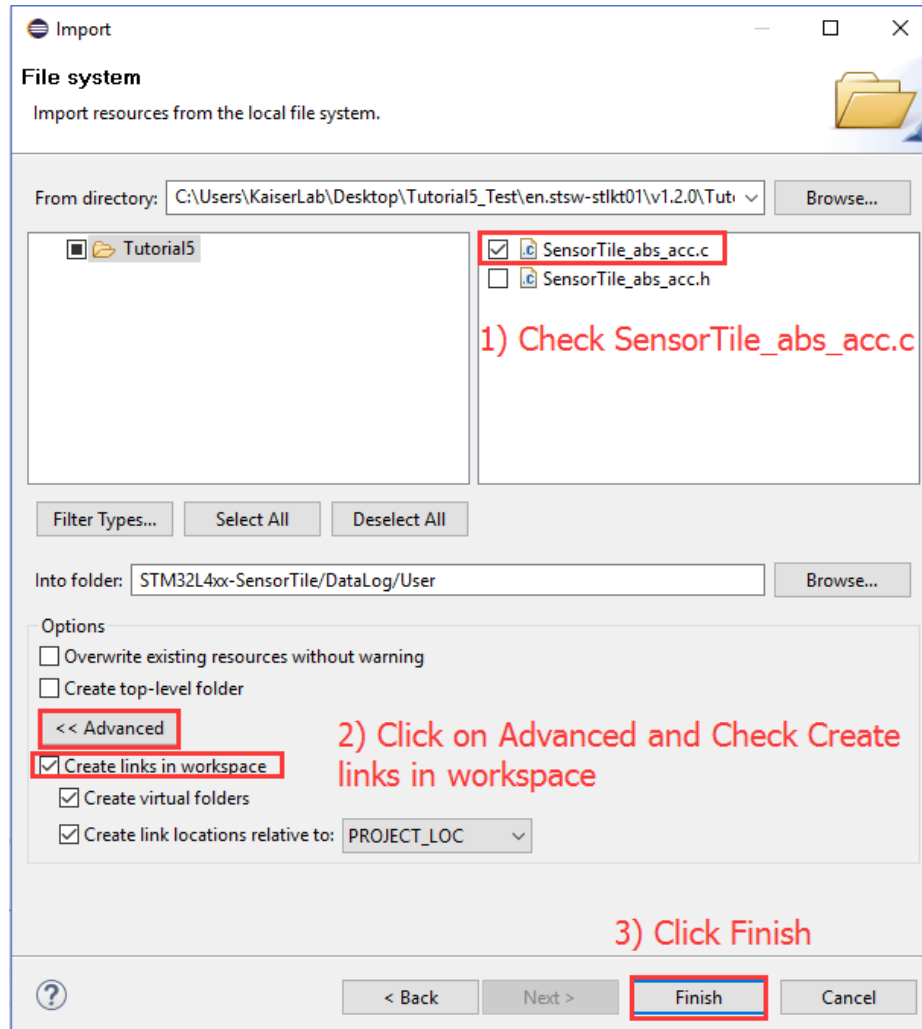

Figure 6: Checking import files and creating links in workspace in Advanced settings.
8. Check the file to be imported, click on **Advanced** and check **Create links in workspace**, and click **Finish**. See Figure 6.